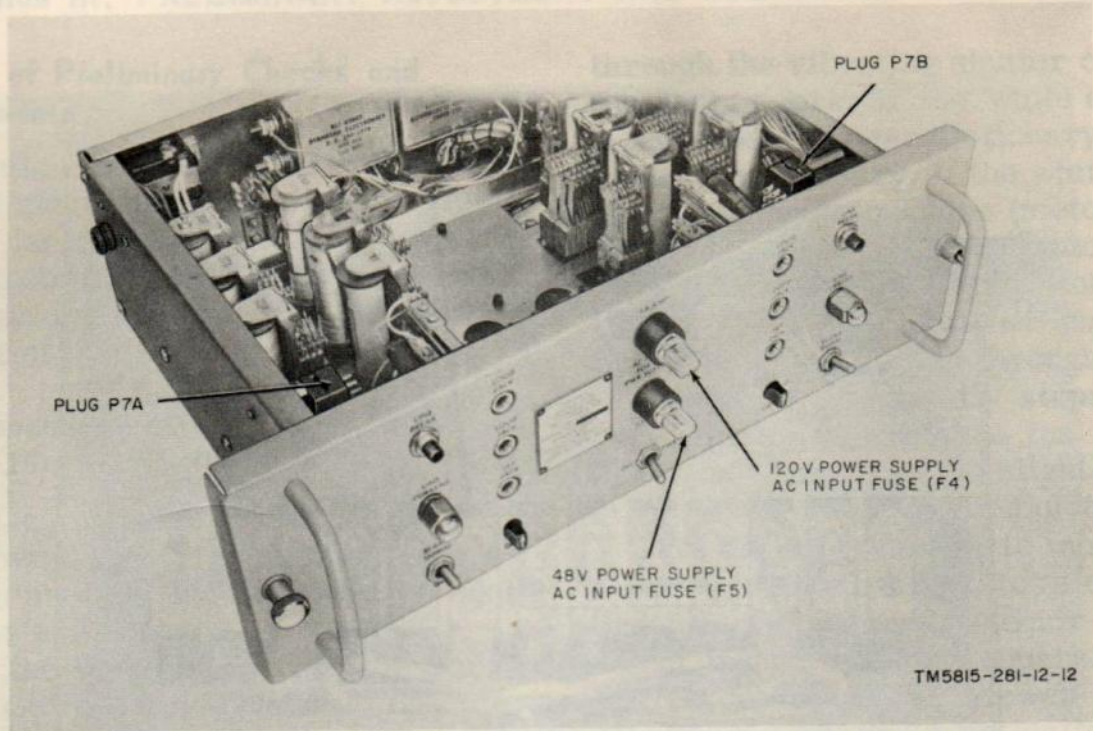

Figure 12. Control base fuse locations.
i. Replace the plug on its mating receptacle (fig. 12).